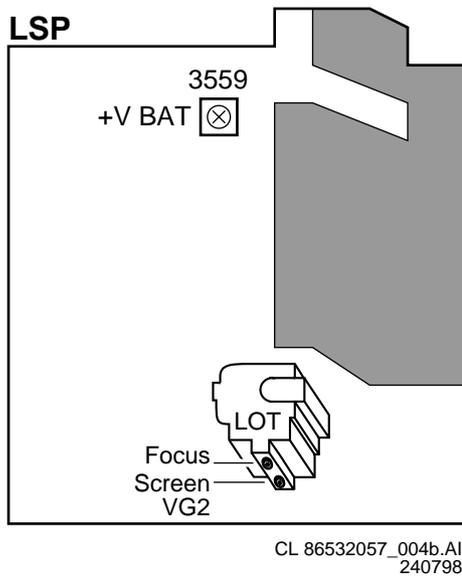

Figure 8-1
- Using potentiometer R3559 (diagram A1) adjust the VBAT supply voltage to +141V ± 0V5. (see Fig. 8.1)